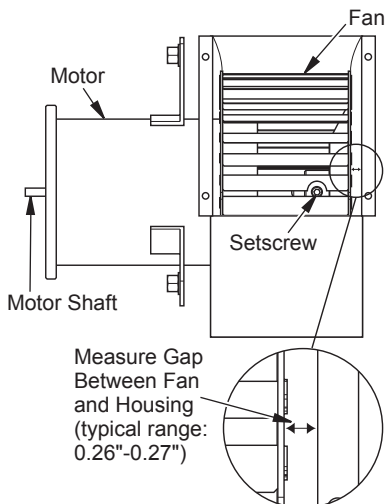

Figure 19 - Fan Side View
5. Rotate fan so set screw is visible (see Figure 19). Measure gap from side of fan to side of housing. Make note of measurement.